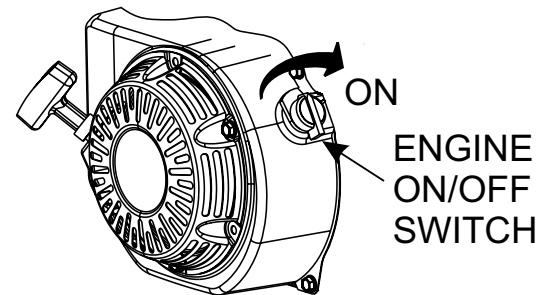

Figure 24. Engine ON/OFF Switch (ON)
2. Place the engine ON/OFF switch (Figure 24) in the **ON** position